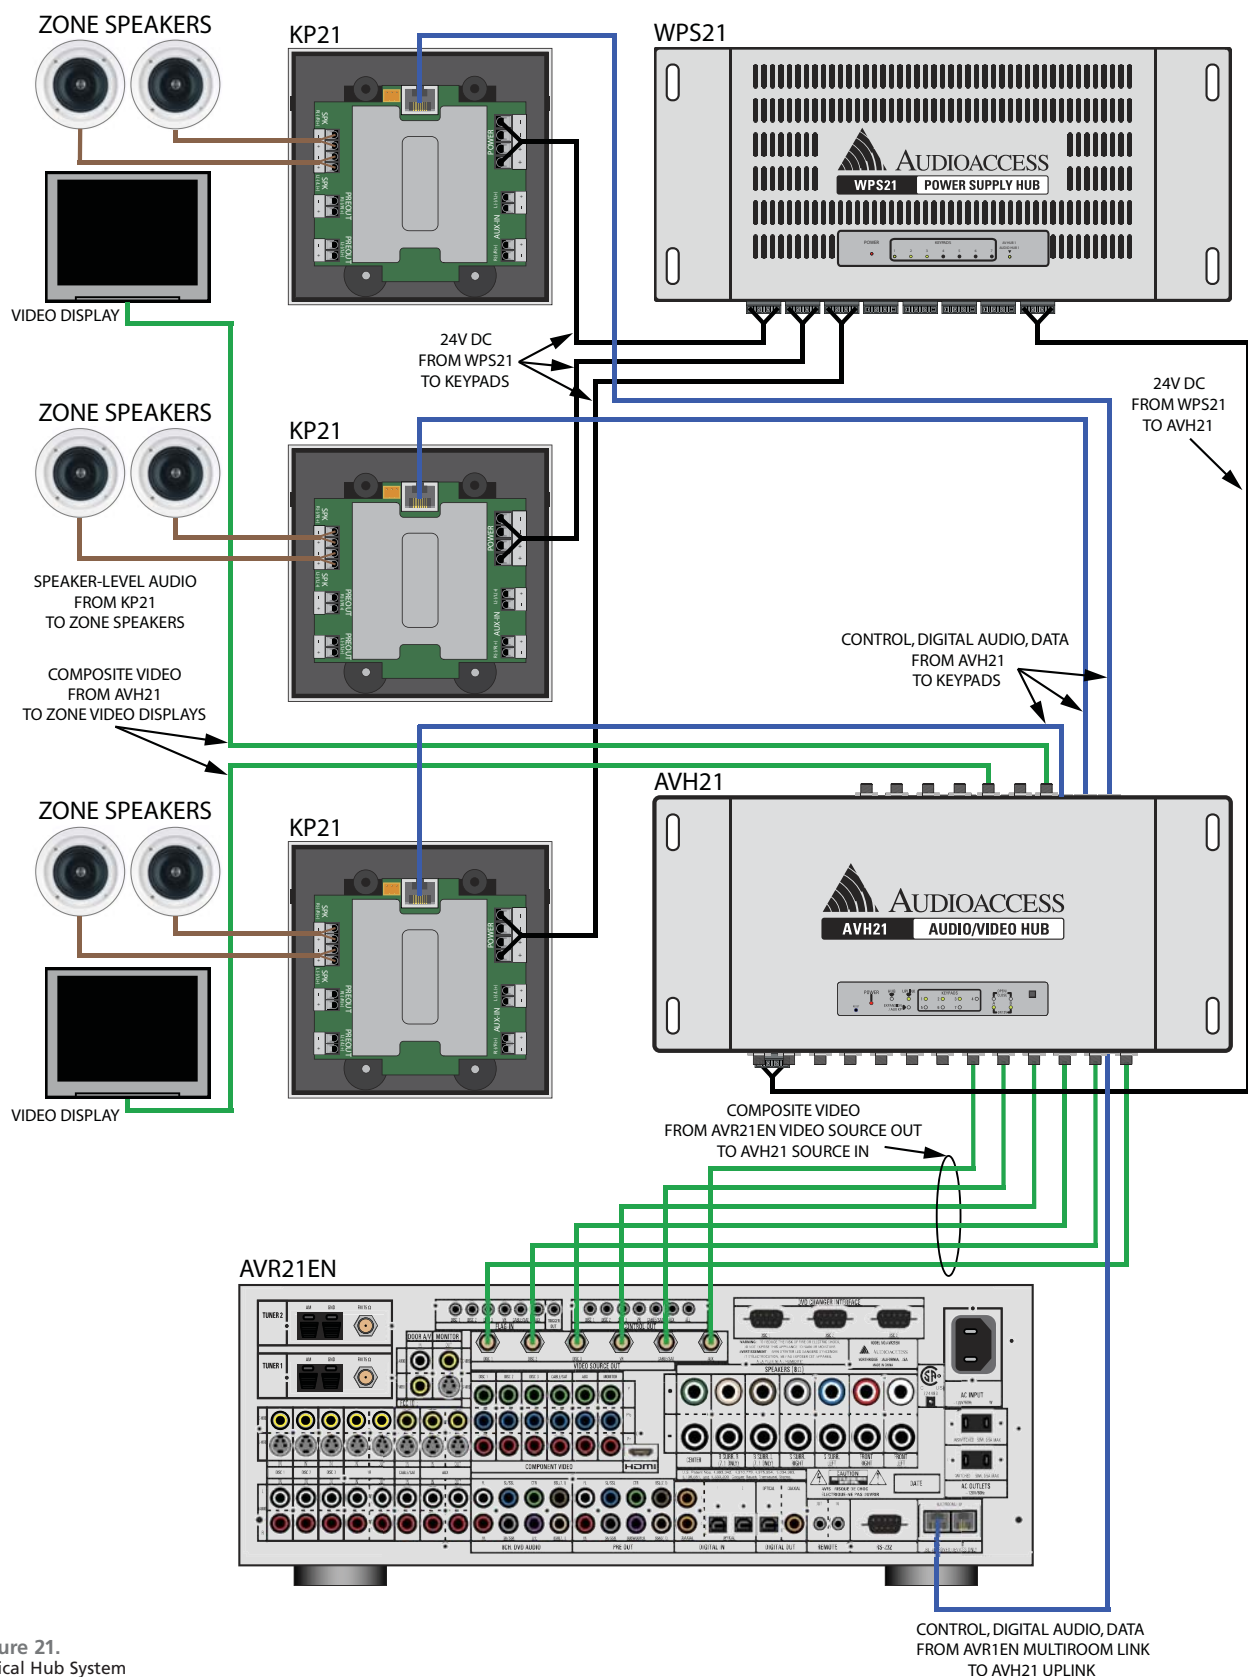

Figure 21.
- Connect the plug-in connectors to the **Power In Terminal** 9 on the AVH21 and to the **AV/Audio Hub 1/2/3 Terminal** 5 on the WPS21 to power the AVH21 and associated KP21 keypads, as shown in **Figure 21** on page 42.